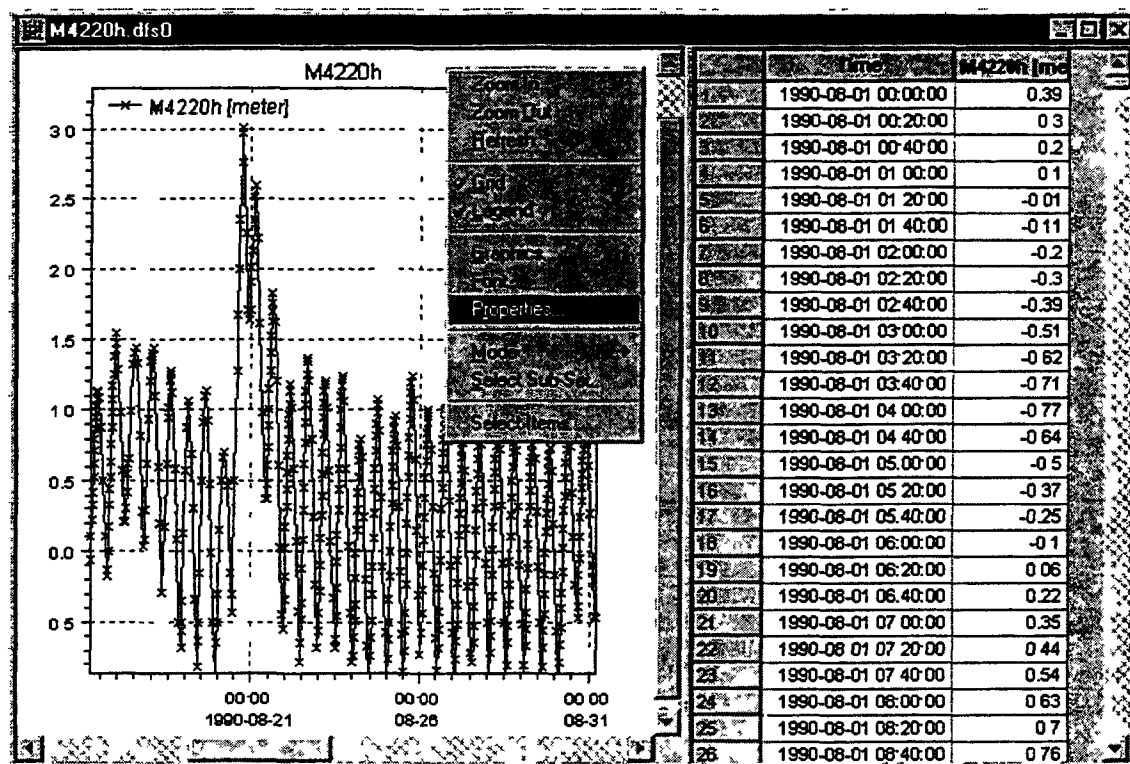

Figure 5.8 Time series editor, Time series data dialog
The time series data dialog consists of two views, a tabular view and a graphical view (see Figure 5.8)
- To activate the pop-up menu as shown on figure 5.8 place the cursor in the graphical view and press the right mouse button